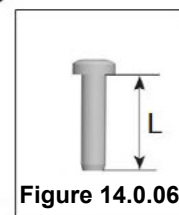
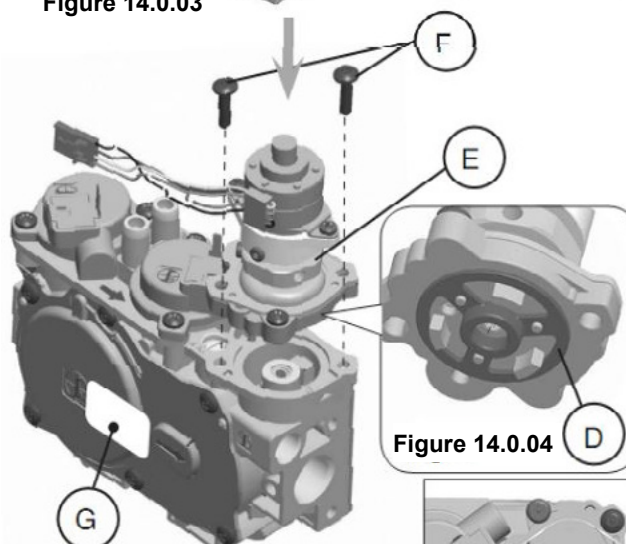
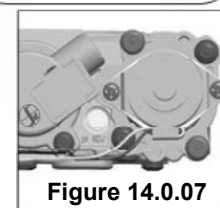

Figure 14.0.06
Figure 14.0.05
Figure 14.0.07
4. Install the new STEPPER MOTOR pressure regulator assembly, as shown in Figure 14.0.05 and Figure 14.0.06. Use the supplied screws (F), M4 x 0.7 threaded length of thread  $L=(16\text{ mm} + 0 - 0.5\text{ mm})$ , steel material, resistance class 8.8 (see Figure 14.0.07).
6. Install the enclosed identification label (G) to the valve body where it can be easily seen.